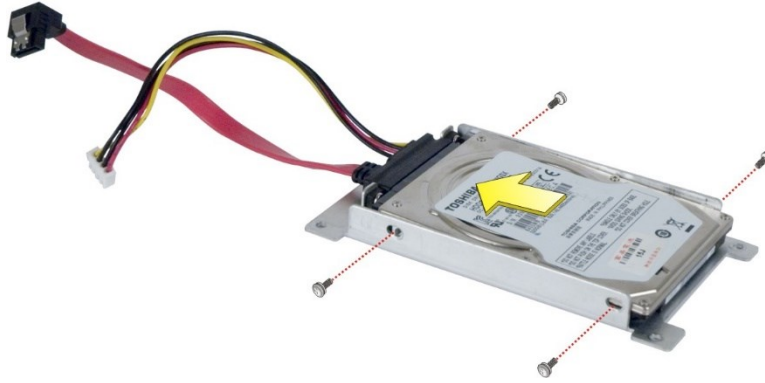

Figure 3-3: HDD Retention Screws
Step 3: Secure the hard drive to the bracket. Secure the hard drive to the bracket with four retention screws (**Figure 3-3: HDD Retention Screws**).